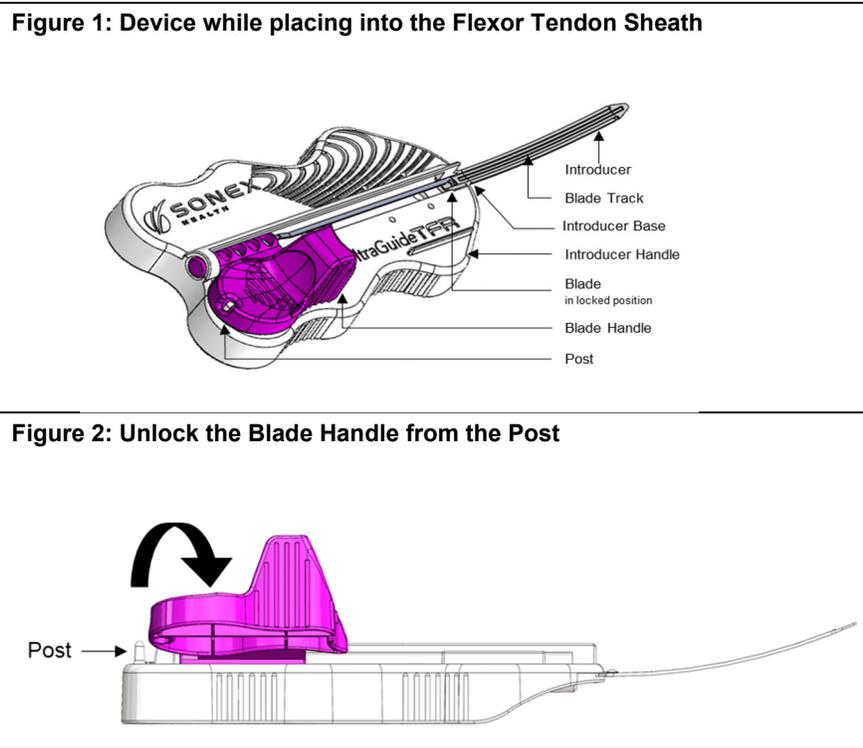

Figure 3: Start Position
1. Unlock the Blade Handle (purple) from the Post by rotating it up, moving it distally, and placing it back down on the device just in front of (i.e., distal to) the Post (Figure 2). If positioned correctly, the distal end of the Blade Handle will be behind the Start Line on the Introducer Handle (Figure 3).